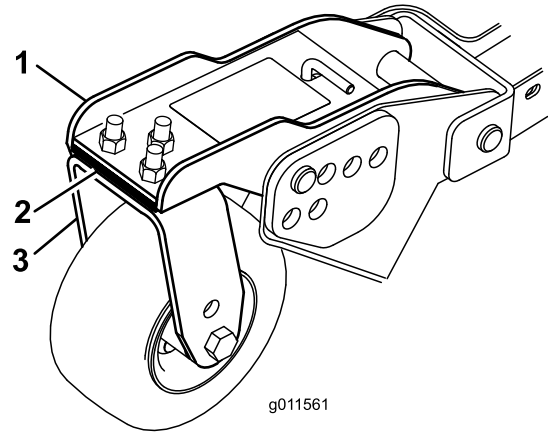

Figure 124
1. Remove the cap screws and nuts securing the caster arm to the caster fork (Figure 124).